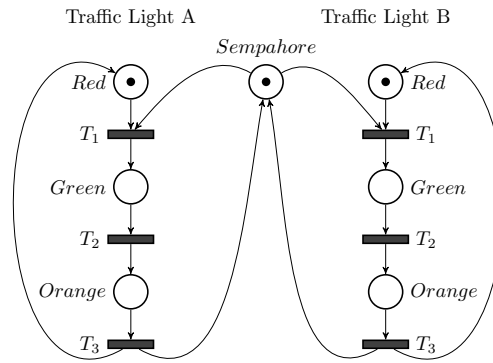

Figure 7 Solution that ensures both boundedness and mutual exclusion between the green lights.
b. To solve all problems all one needs to do is to add a semaphore that is shared between the two traffic lights. The extended solution can be seen in Fig. 7.